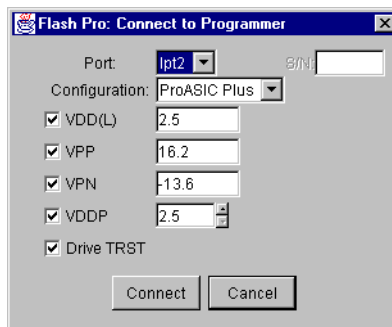

Figure 2-1. FlashPro: Connect to Programmer Dialog Box
1. **From the *File* menu, click *Connect*.** The FlashPro Connect to Programmer dialog box displays, as shown in Figure 2-1.